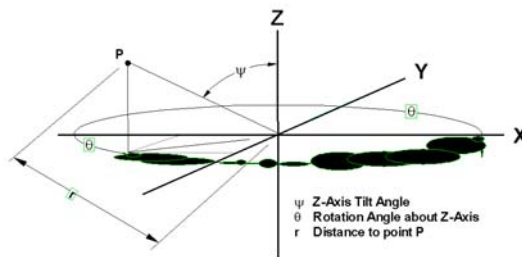

Figure 20-6. Three-dimensional angles of rotation.
- **Spherical to Rectangular** - Tecplot 360 assumes the current Y-variable represents the radius  $r$ , the current X-variable the angle  $\theta$  (in radians), and the current Z-variable the angle  $\psi$ . Figure 20-6 shows  $r$ ,  $\theta$ , and  $\psi$  in the spherical coordinate system.